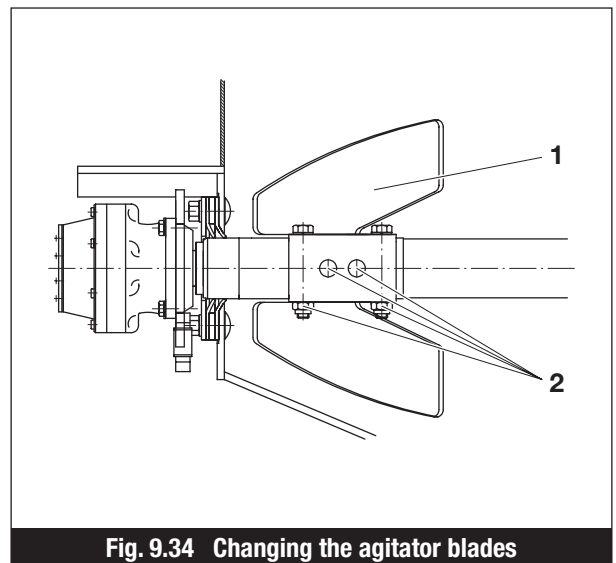

Fig. 9.34 Changing the agitator blades
1. Remove the motors (Item 4, Fig. 9.34) and put them in a safe place.
2. Knock the securing pin (8) fully inwards, remove the washer (9) and unscrew the nut (10).
3. Lever out the shaft (11) using pry bars.
4. Split the wear sleeves (12) off the shaft (11) and remove them.
6. Refit the agitators in the reverse sequence to removal. A new hole must be drilled for the securing pin (8).